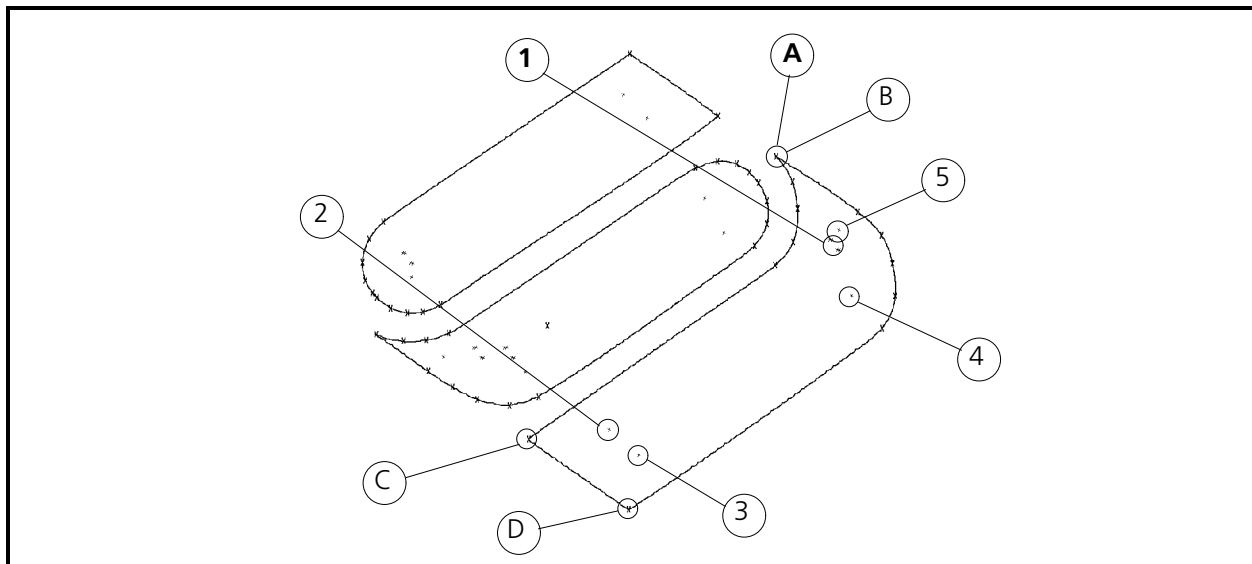

Figure 3-63
12. Generate lock stitches near point D, move to point 1 as shown in Figure 3-63 with the "needle up" / "normal stitch" sequence, and generate another set of lock stitches to get ready for the last section of the Saurer logo fill stitching.